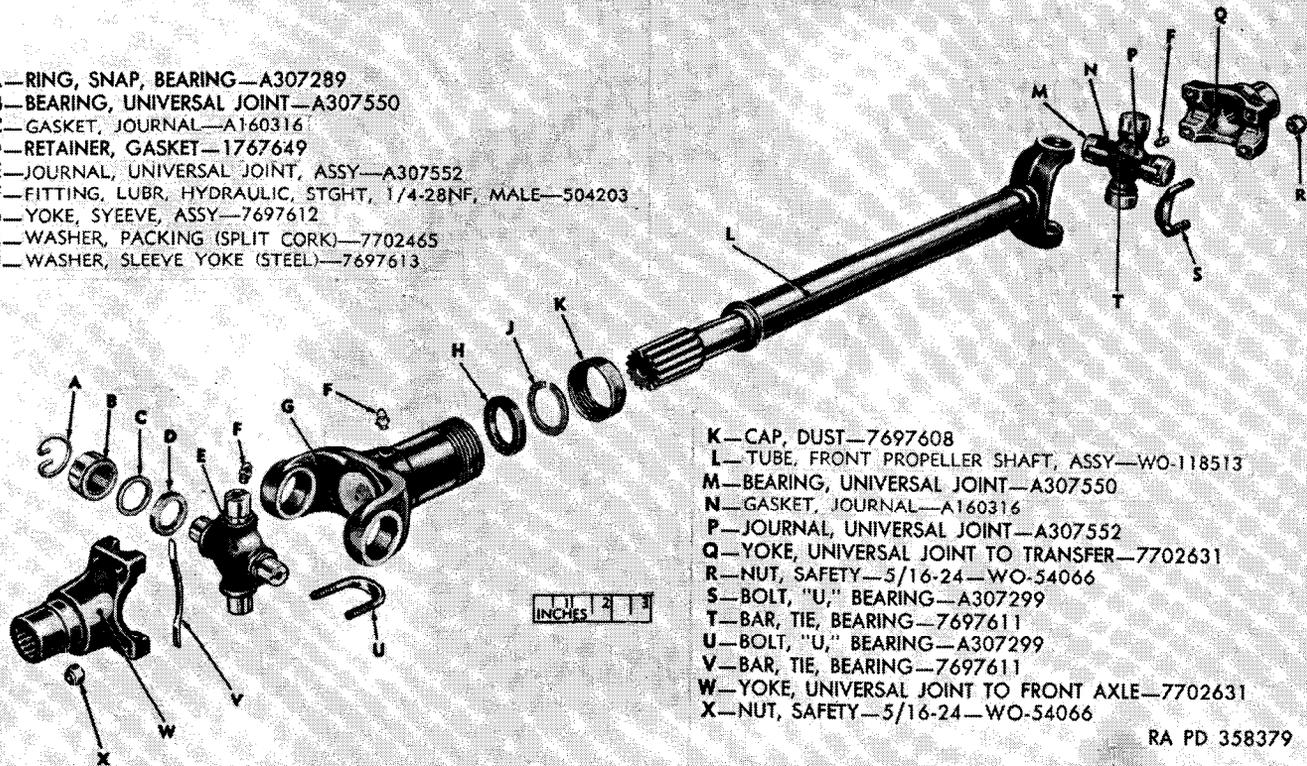
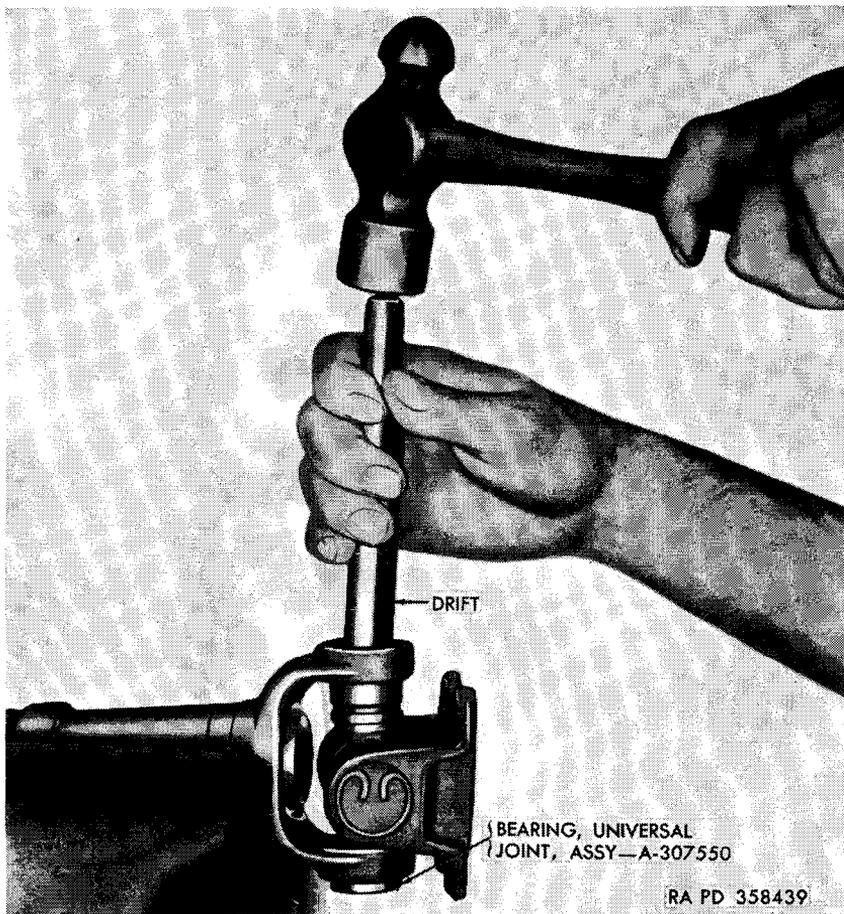

Figure 49. Front propeller shaft (U bolt type)—exploded view.
Figure 50. Removing universal joint bearing.
a. *Front Propeller Shaft* (fig. 49).
- (1) *Remove journal bearings from free ends of journal.* After the bearing U bolts (S and U) are disconnected and the propeller shaft is removed from the vehicle (par. 80), the only remaining item which holds the universal joint bearings at each end of the universal joint journal is a bearing tie bar (T and V), which is tack-welded to the side of each universal joint bearing (B and M). Cut this tie bar in half and remove the universal joint bearing (B and M), journal gaskets (C and N), and gasket retainers (D) from the universal joint journal (E and P) at either end of the propeller shaft.
- (2) *Remove universal joint journal from sleeve yoke* (fig. 50). Drive lightly on the end of a universal joint bearing until the opposite universal joint bearing is pushed out of the sleeve yoke flange. Turn the yoke assembly over in the vise and drive the first universal joint bearing back out of its lug, by driving on the exposed end of the universal joint journal. Use a brass drift with a flat face about $\frac{1}{32}$ inch smaller in diameter than the hole in the sliding yoke; otherwise there is danger of damaging the universal joint bearing. Repeat this operation for the other two universal joint bearings; then lift out the universal joint journal, sliding it to one side and tilting it over the top of the yoke.
- (3) *Remove sleeve yoke from front propeller shaft tube.* Unscrew the dust cap (K). Slide the sleeve yoke assembly (G) off the front propeller shaft tube. Remove the dust cap and split cork packing washer (H) from the front propeller shaft tube.
- (1) *Remove bearing snap rings from yoke on transfer end.* Place the propeller shaft in a vise and remove the bearing snap rings (B) that secure the universal joint bearings (C) in the rear propeller shaft tube assembly (M) with a pair of pliers. If the bearing snap ring does not snap out of the groove, tap the end of the universal joint bearing lightly. This will relieve the pressure against the bearing snap ring.
- (2) *Remove universal joint bearings on rear axle end.* Refer to a(1) above.
- (3) *Remove universal joint journal from sleeve yoke* (fig. 50). Refer to a(2) above.
- (4) *Remove sleeve yoke from shaft* (fig. 49). Refer to a(3) above.
a. Front Propeller Shaft (fig. 49).
- (1) *Install sleeve yoke on shaft.* Place propeller shaft tube in a vise. Slide the dust cap (K) on the propeller shaft tube. Place a new split cork packing washer (H) and sleeve yoke steel washer (J) in the dust cap. Slide the sleeve yoke assembly (G) on the propeller shaft tube splines, being sure that the sleeve yoke on the propeller shaft tube is in the same angle as the yoke at the opposite end of the propeller shaft tube. Thread the dust cap onto the sleeve yoke.
- (2) *Install universal joint journal in sleeve yoke* (fig. 49). Install the universal joint journal assembly (E) in either the sleeve yoke assembly (G) or the propeller shaft tube yoke at the opposite end. Tap one universal joint bearing (B), journal gasket (C), and gasket retainer (D) approximately one-quarter of an inch into the sleeve yoke. Place the other universal joint bearing and journal gasket into the opposite side of sleeve yoke and tap until top of the universal joint bearing is in line with the bearing snap ring groove. Install the bearing snap ring (A) in this side. Then tap opposite universal joint bearing in place and install bearing snap ring.